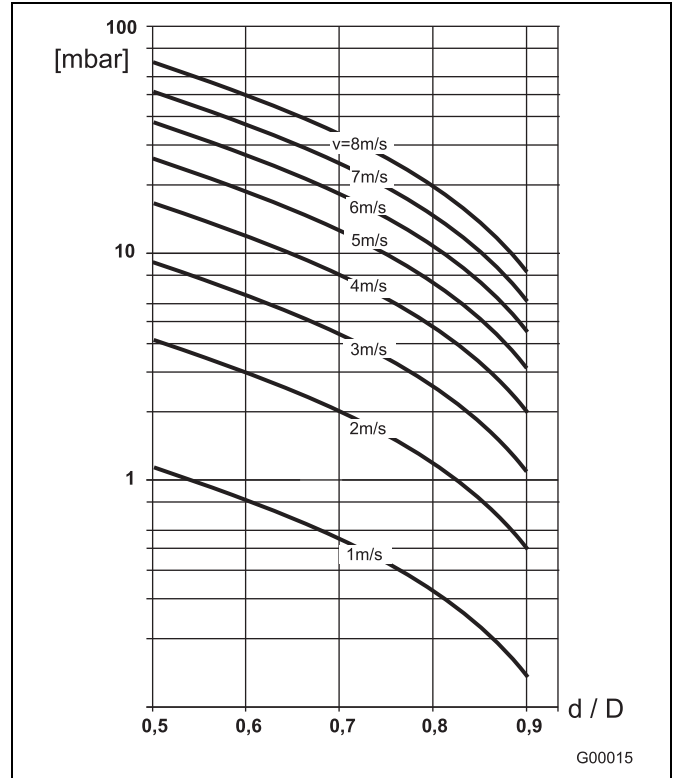

Fig. 18
2. Determine the flow velocity based on the flow range nomograph (Fig. 18).
3. Read the pressure drop on the Y-axis in Fig. 18.